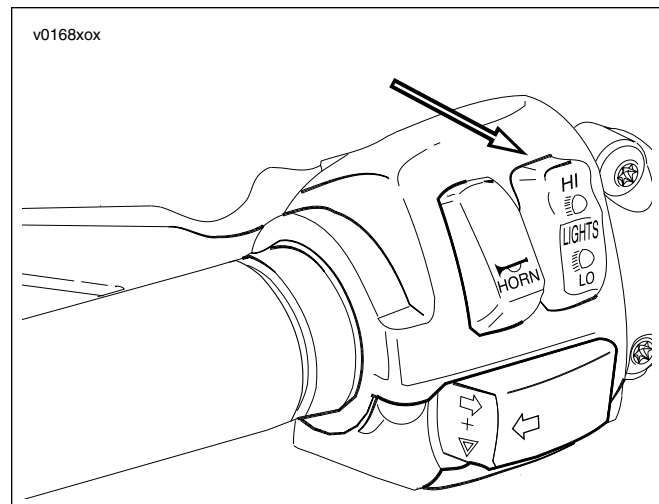

Figure 1-13. Headlamp Switch (typical)
6. See Figure 1-13. Turn ignition switch ON. Set handlebar headlamp switch to HI beam position.